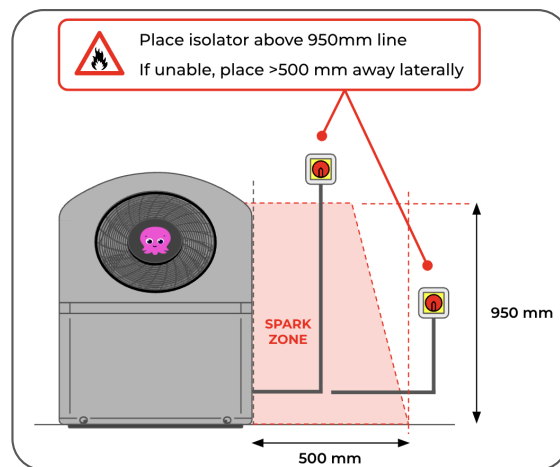

Figure 9.10 - Isolator location
1. Place heat pump isolator switch on the nearest wall, or as close as practical and in accordance with local and national wiring regulations. **Isolator should be placed above the 950mm line.** If impractical to mount above 950mm from base, **place outside the later limits of the No Spark Zone.** See Figure 9.10